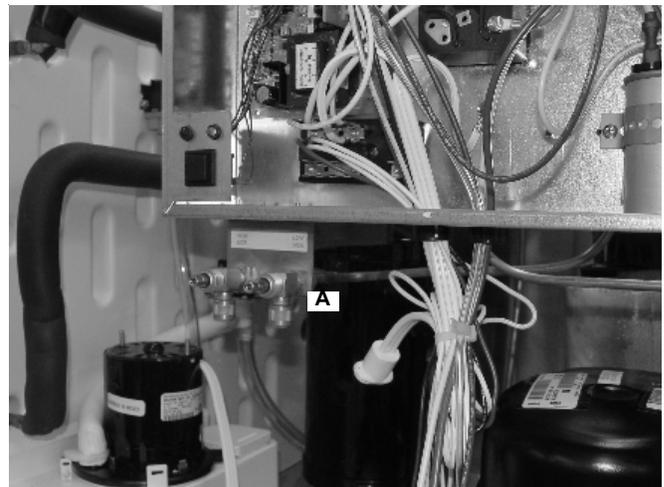

Figure 40.
50. Use 2 hex head screws to attach the service valve bracket (A) to the electrical control box (Figure 40).